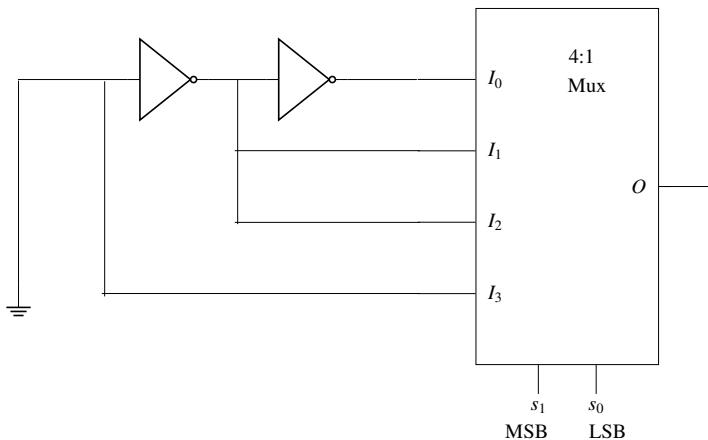

Fig. 3.28: Circuit Diagram
45. The Boolean operation performed by the following circuit in Fig. 3.28 at the output  $O$  is \_\_\_\_\_ (GATE IN2020 – 12)